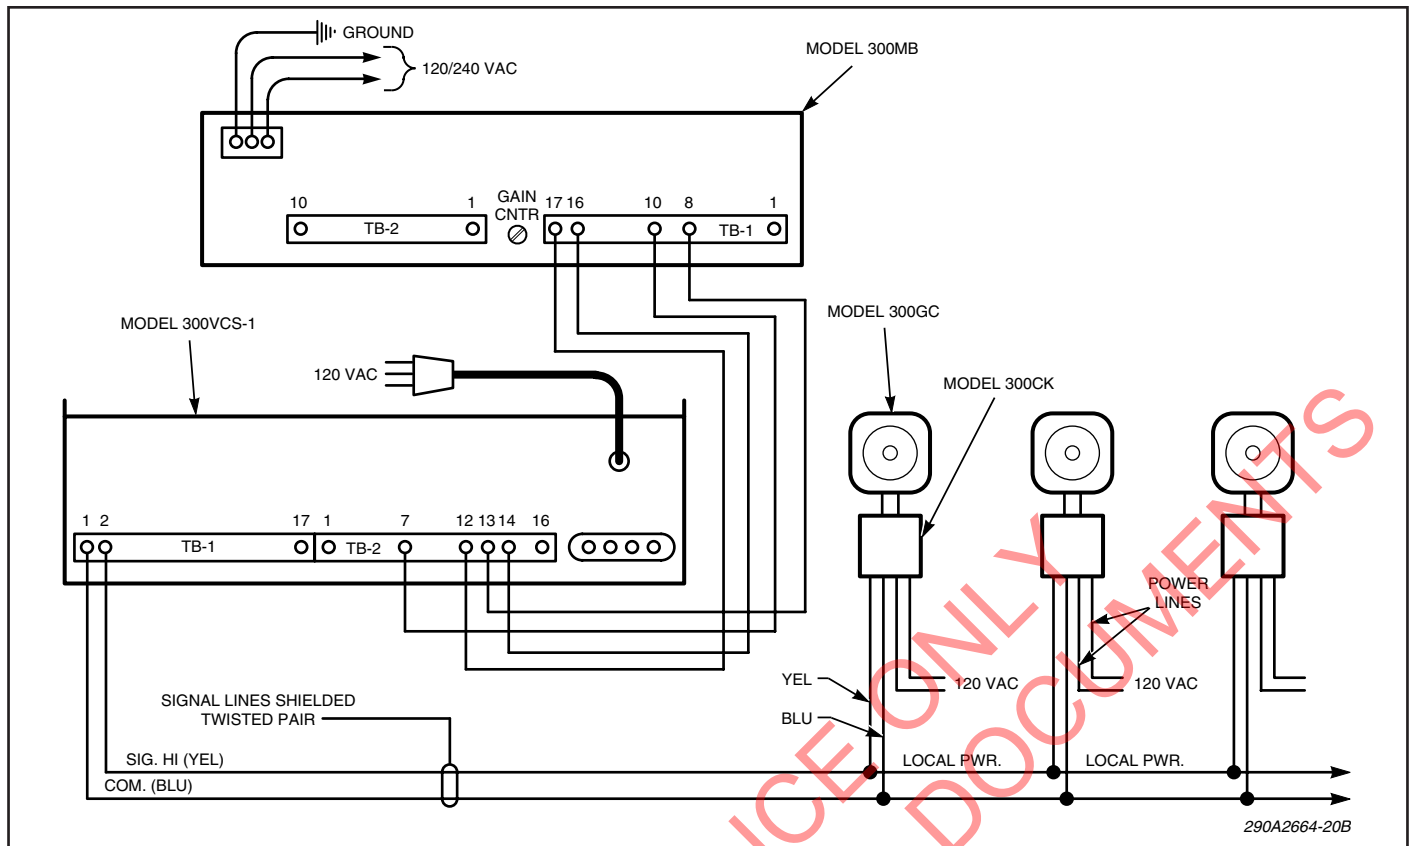

Figure 3-6. Models 300MB and 300VSC-1.
B. *300MB Interface with a 300VSC-1, 300SCW-1, 300SSC (see figure 3-6 and table 3-2).*